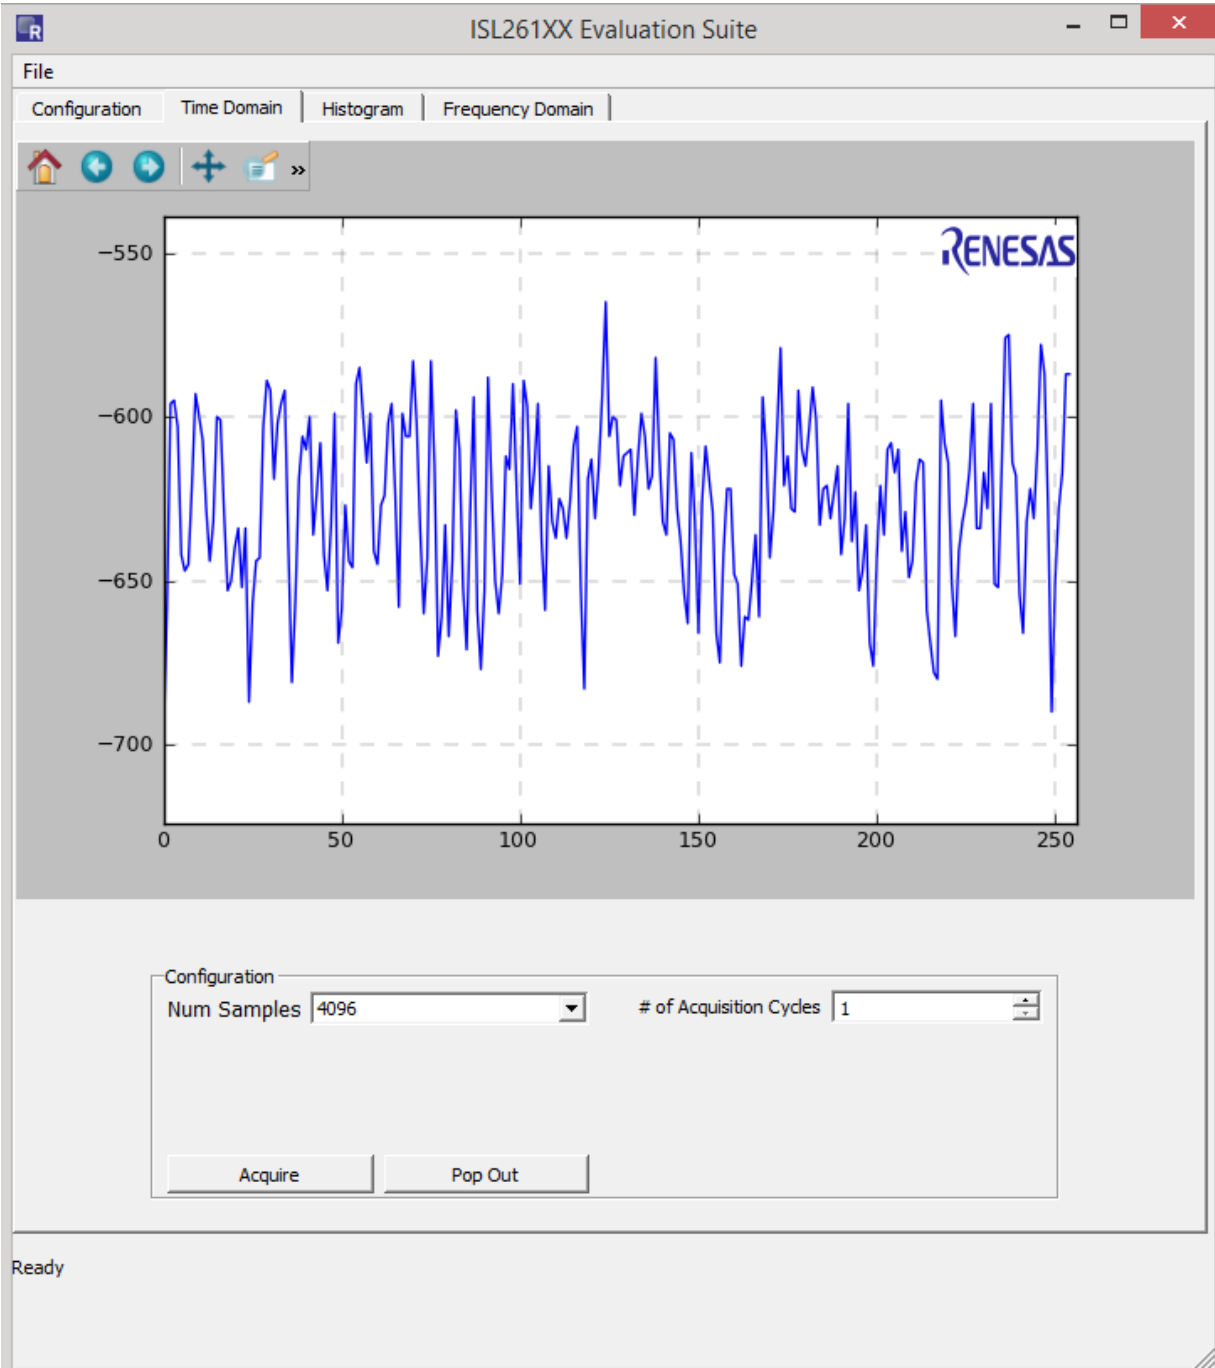
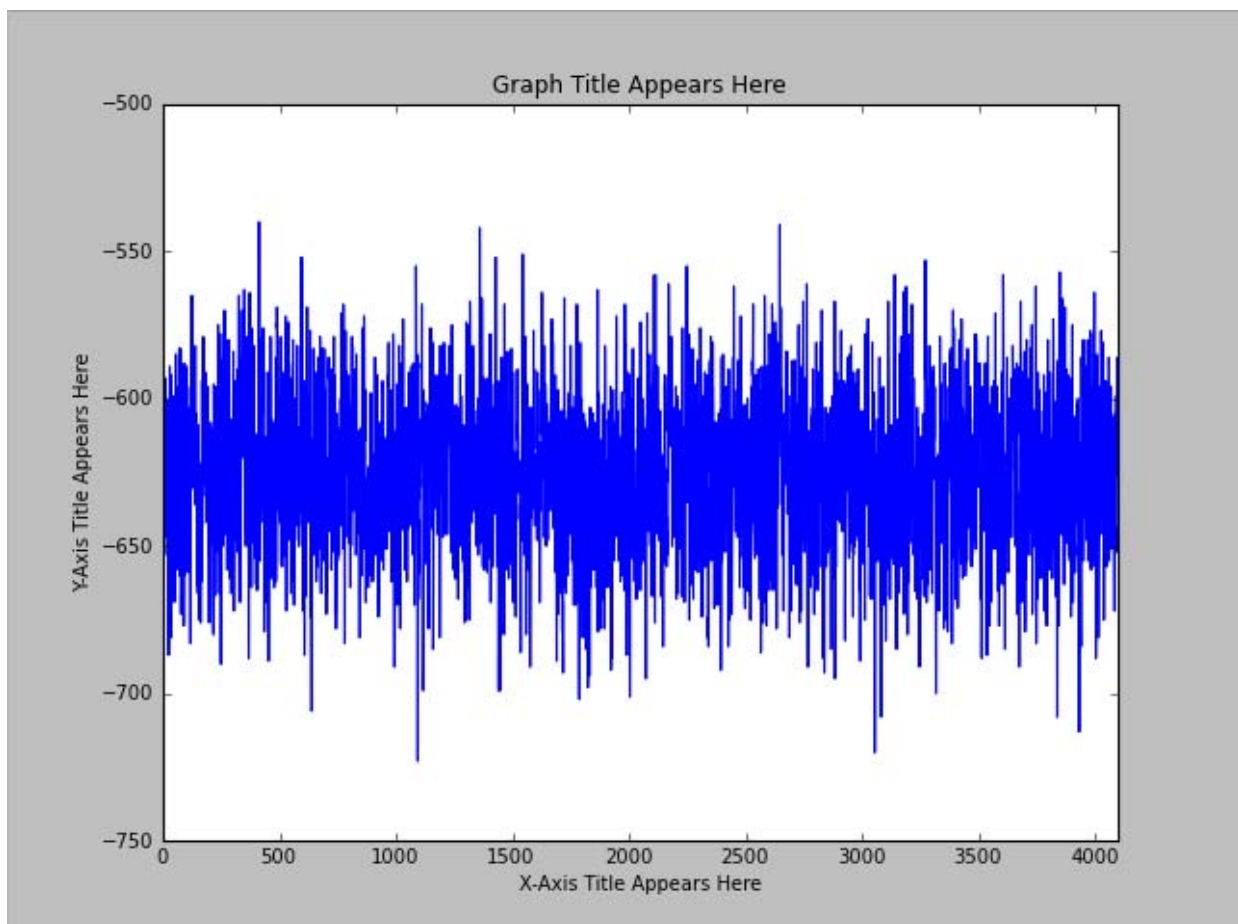

FIGURE 11. TIME DOMAIN WINDOW, "About" BUTTON RESULTS (256 SAMPLES)
FIGURE 13. TIME DOMAIN WINDOW, “Pop Out” BUTTON RESULTS
the samples will be collected and the samples up to 256 will be displayed in the graphing window. If greater than 256 samples are collected, then, after the samples are captured and the first 256 are displayed, the time plot of the entire sample set can be displayed by clicking on the **Pop Out** button. Figures 11 and 13 illustrate the capture of 4096 samples. The window in Figure 11 displays only the first 256 samples. Figure 13 illustrates the results when the **Pop Out** button has been selected.
**Check Box:** Allows customization of axis labels/plot title as shown in Figure 13.